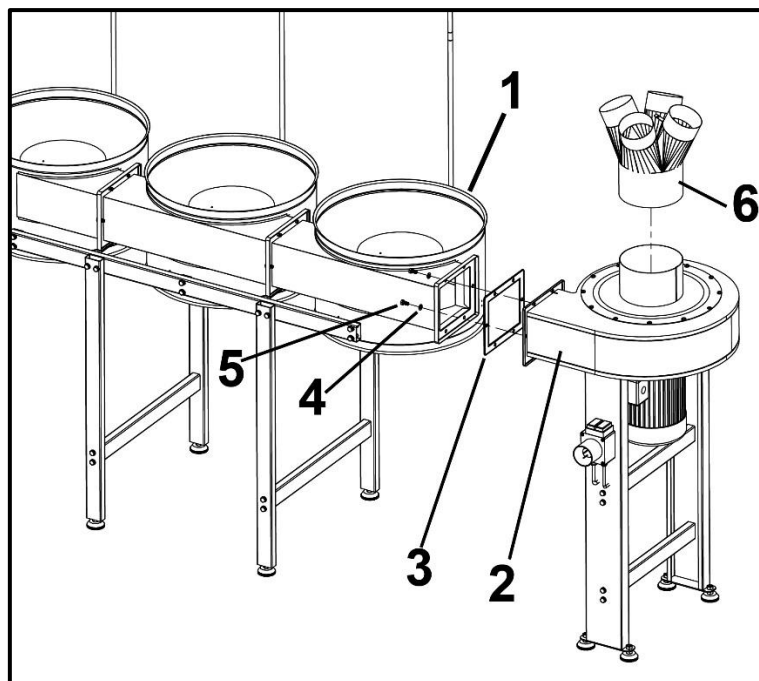

Fig. 6
- Put the well fitted separators assembly together with well fitted impellor housing assembly using hex bolt M8X16 and washer. Make sure gasket (3) is in correct position before securing these two parts. Put inlet (6) on inlet cover. See Fig 6.